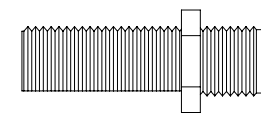
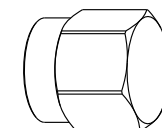

Figure 2 - RP-SMA Female to Female Connector
Figure 3 - 50 Ohm Terminator
3. Attach the RP-SMA Adapter (Figure 2) to one end of the cable and then attach the 50 Ohm terminator (Figure 3) to the RP-SMA Adapter. (This is the end that will attach to the antenna.)